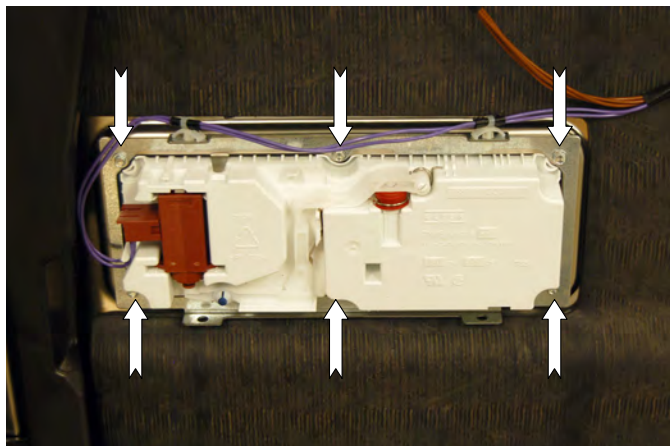

Figure 1 - Long Dispenser
- 4a. **LONG DISPENSER:** Remove - 6 - ¼" hex head screws securing the dispenser to the door. Remove dispenser assembly and bracket, (see Figures 1 & 3).